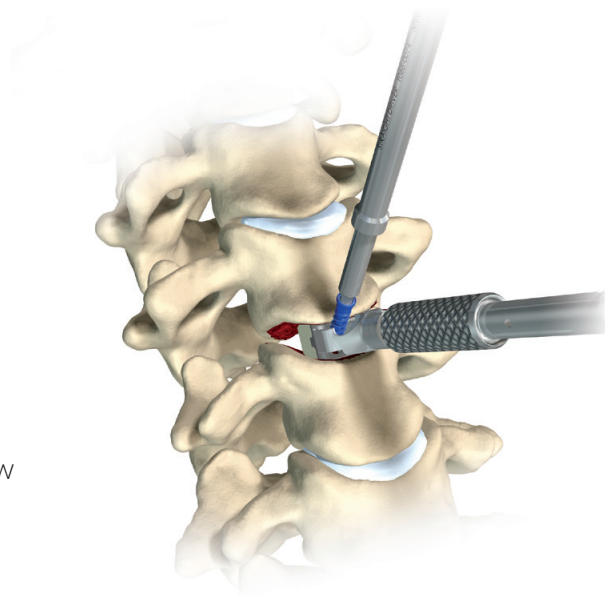

Figure 9
- Insert the screw into the prepared screw hole (Figure 9).